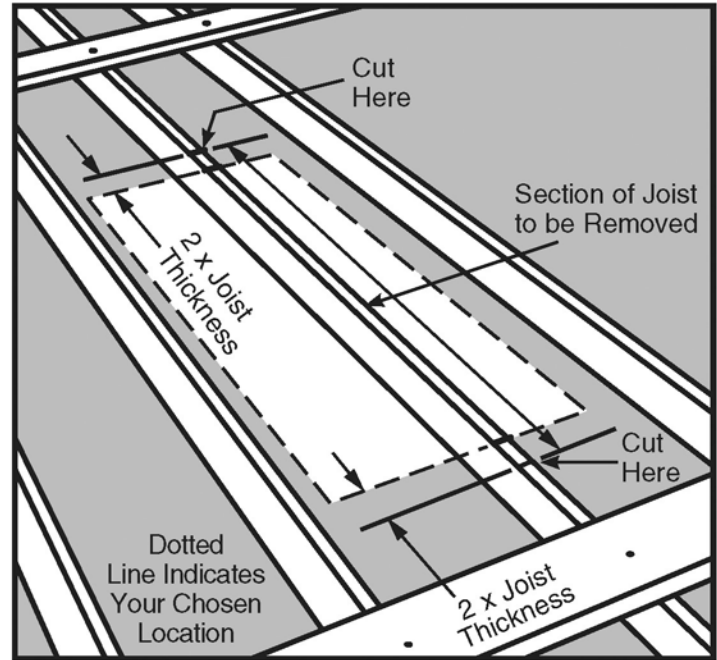
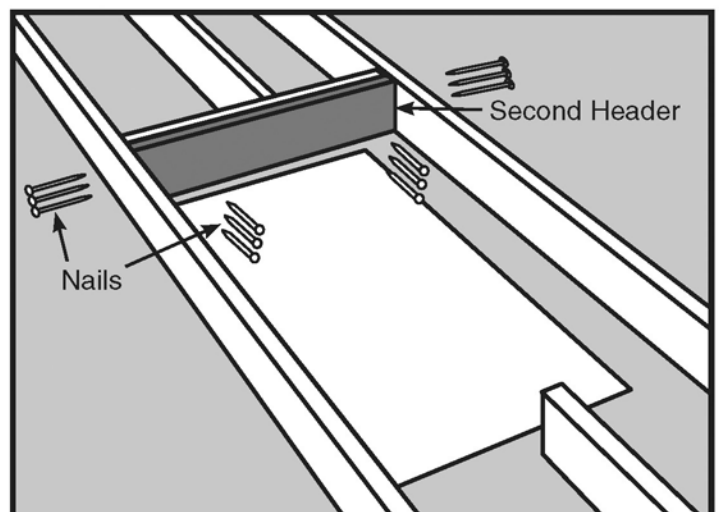

Figure 10
Figure 16
STEP 4. Next, determine where the joist(s) should be cut. Figure 10 shows where to mark the joist(s) that span your chosen location. Note that the joist(s) should be marked back from the edge of your location a distance of 2 times the joist thickness (usually three inches). This leaves room for two joist-sized headers to be placed against each end of the cut joist(s) (See Figure 16 on page 18).
- STEP 6. Place a second header against the first header and nail it to the first header with 3 nails between each joist (See Figure 16).
- STEP 7. Drive 3 nails through the joists into each end of the second header (See Figure 16).